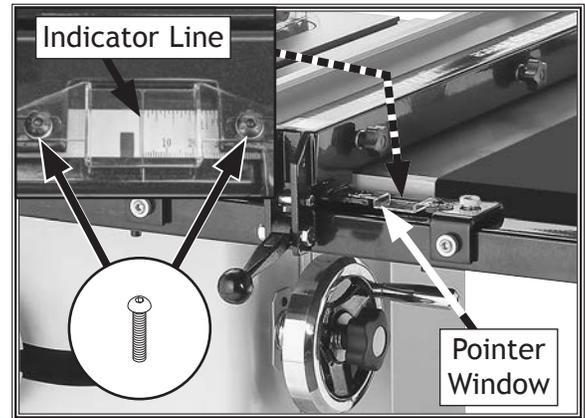

Figure 32. Aligning rail tape with scale pointer.
- If you need to correct position of indicator line, loosen button head screws on pointer window, adjust pointer window so line is over "0" mark on tape (see Figure 32), then secure screws.